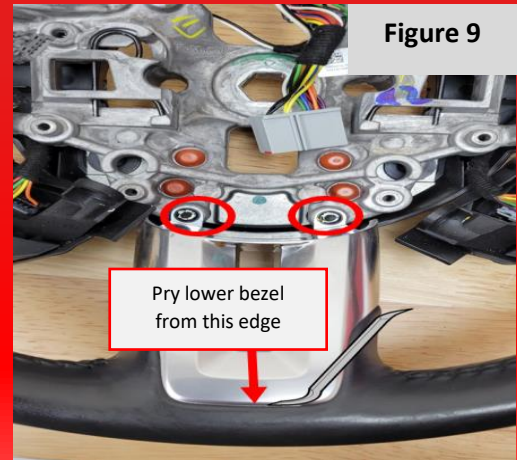

Figure 9
9. Remove the (x2) T20 Torx bit screws on the lower side of the steering wheel core to free the lower bezel (**Figure 9**). Use a plastic pry bar to free the bezel from the core as shown in **Figure 9**. Set this bezel aside for reinstallation.
15. Reinstall the V-shaped lower wing bezel onto the lower wing of the steering wheel (**Figure 9**) along with the (x2) T20 Torx bit screws. Torque to 44lb-in (5 Nm).